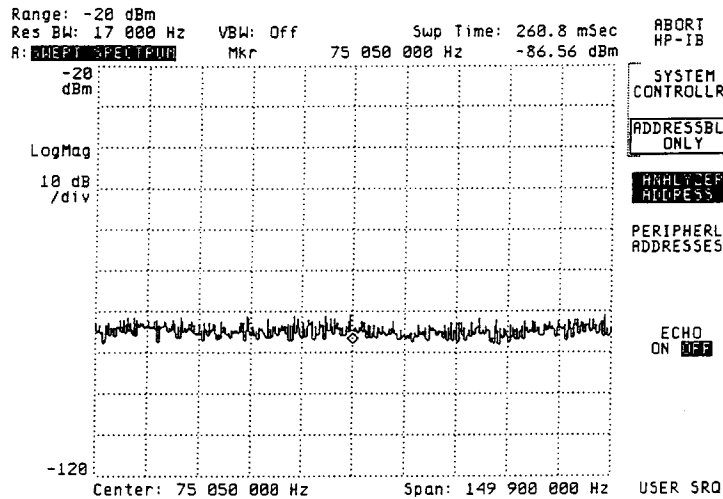

Figure 1-4. HP 3589A Screen After Pressing Local/HP-IB
4. Verify that the analyzer's address is set to 19. The current address setting is displayed when you press the [ANALYZER ADDRESS] softkey (see figure 1-4). You can change the address by pressing [ANALYZER ADDRESS], then using the numeric keypad and the [ENTER] softkey to enter a new value. However, the instructions in the verification procedure assume that the analyzer address is set to 19.